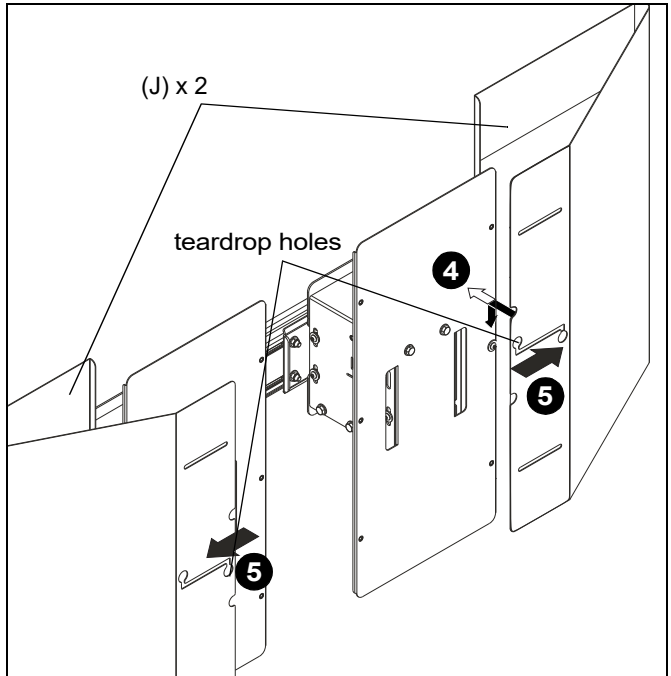

Figure 11
4. Hang two side wind shields (J) onto screws loosely installed in Step 3 using teardrop holes in center slots. (See Figure 11)
5. Slide wind shields (J) horizontally to desired mounting position. (See Figure 11)